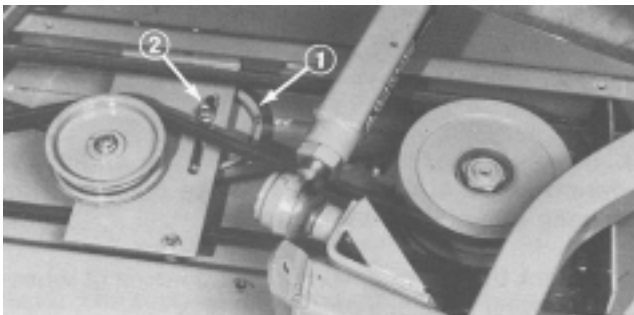

Figure 26
4. Mount a belt on lower pulley groove of left spindle, slide belt under belt idler mount plate and install around center spindle pulley. Tension belt by levering idler pulley against belt and tighten idler pulley flange nut (Fig. 26).